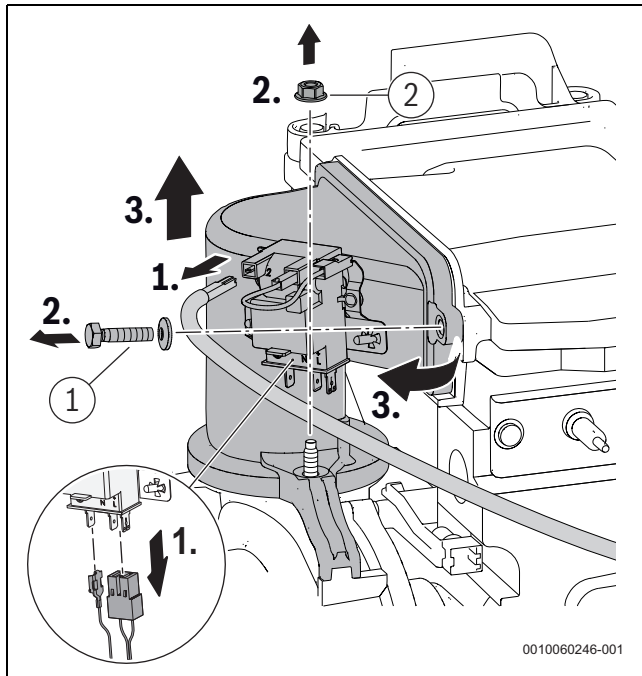

Fig. 82 Removing the mixing device
Refer to figure 82.
- ▶ Tighten the screw and nut ([1] and [2], Fig. 82) on the mixing device.